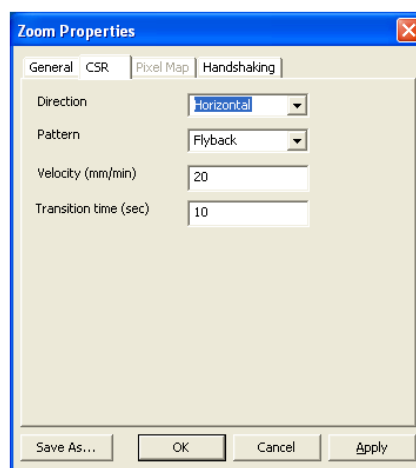

Figure 7.30. CSR Specific Settings
3. Choose the **CSR** tab (see Figure 7.30):